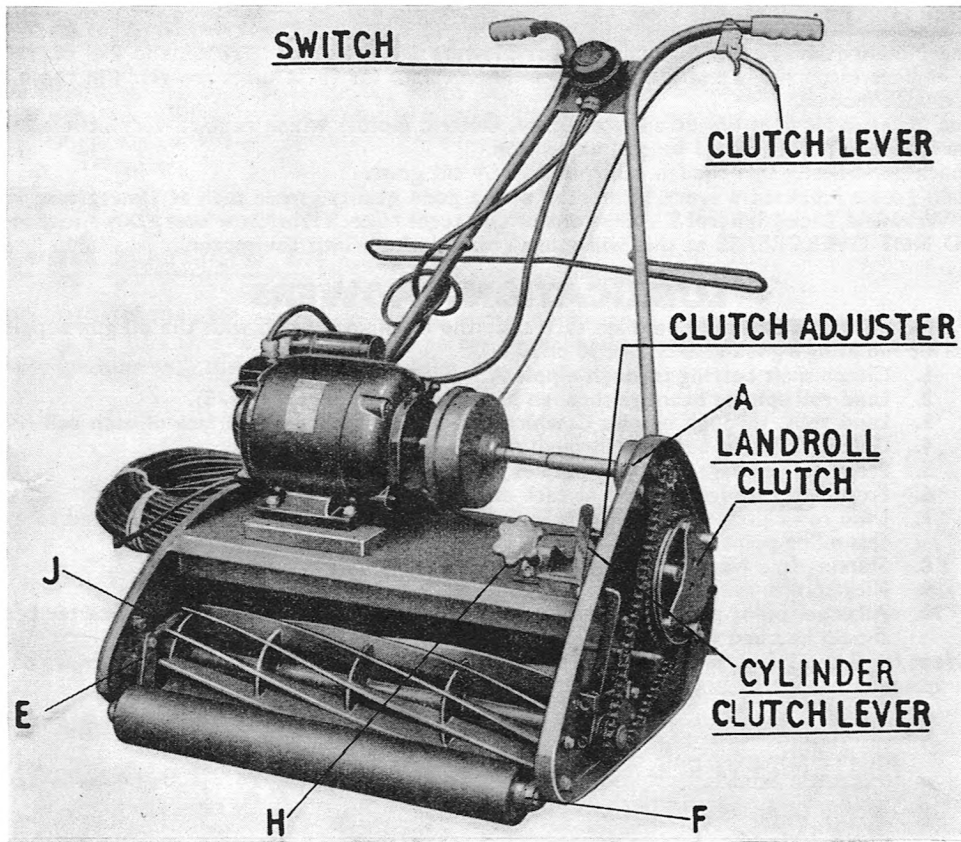

Fig. 4.
1. Clutch shaft bearing through nipple A. (Fig. 4).
5. Front roll carriages through nipples E. (Fig. 4, page 6).
6. Front roll through nipple F at each end of roll. (Fig. 4, page 6).
7. Land roll clutch through nipple in outer plate. Chain case must be removed to expose this oiling point. (Fig. 4).
This is regulated by the hand nut H (see Fig. 4, page 6) which, if turned in a clockwise direction, raises the cutters. Should the front roller get out of alignment with the main roller, it can be corrected by adjusting the right hand bearing bracket J (see Fig. 4, page 6), after slackening the clamping bolt. Any adjustment of height of cut can be firmly locked.